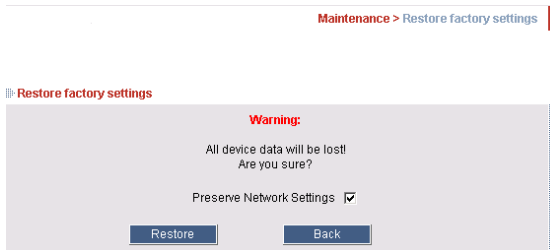

Figure 20 Restore factory settings
1. From the menu select **Restore Factory Settings**. Restore Factory Settings appears see Figure 20.